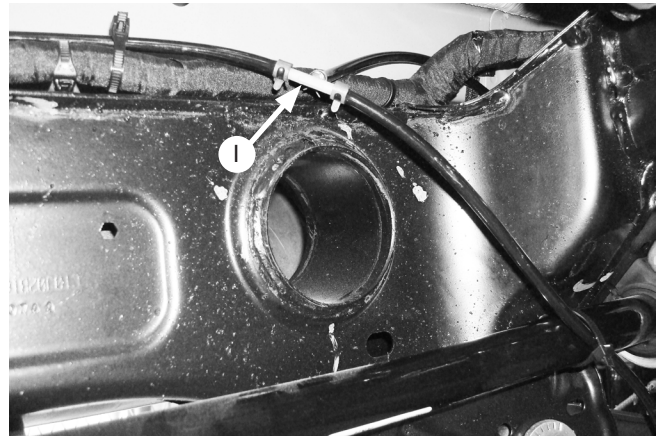

Fig. 13
7. Install a tee (I) (if single fill is desired) or route the air lines across the crossmember (Fig. 13) to the chosen area for the Schrader valves (J). Secure air lines with zip ties (C) provided. Keep air line away from any heat source. Proceed to the air line installation instructions.